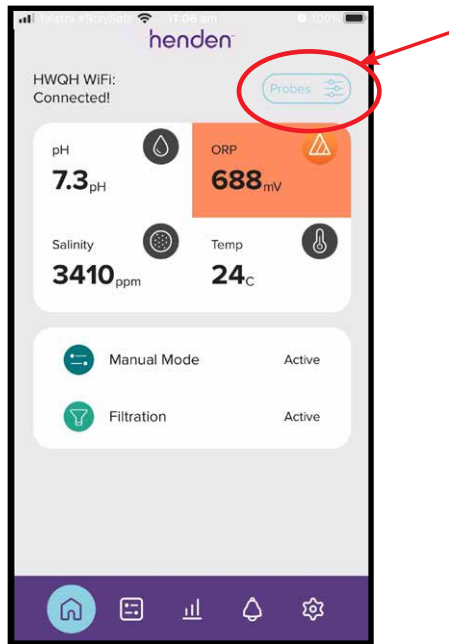

Figure 8.36
- From the home screen of the Henden Smart Chlorinator App, press “probe settings” (refer figure 8.36)